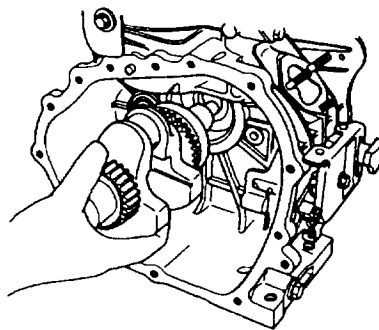

Figure 6-16 Pulling out the crankshaft
- 2) Pull out the crankshaft (see Figure 6-16).